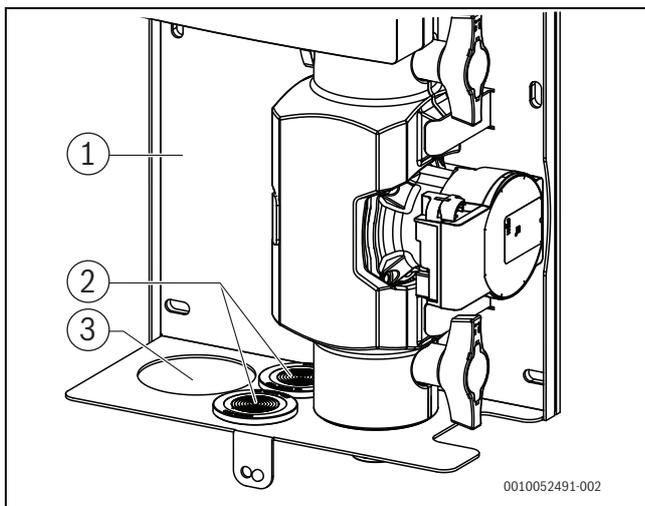
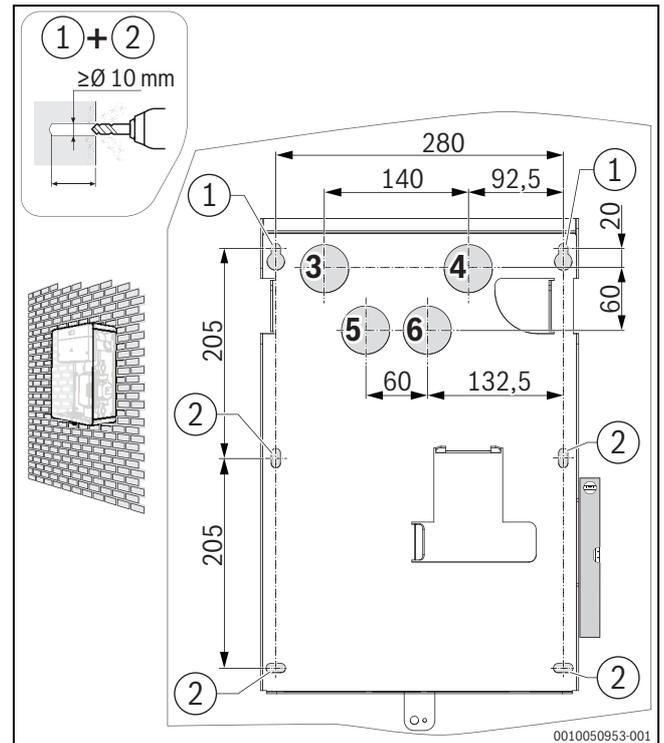

Fig. 13 Opening for the cables through the bottom panel
Fig. 14 Drilling plan for option 1
Before installing the wall mounting bracket (→Fig. 13), the corresponding mounting holes and openings for the hydraulic and electrical lines must be made on the wall as described below, in accordance with the selected option 1 or 2 (→Fig. 14 and 15).
Electrical cables can be routed either at the rear through the wall or downwards through the bottom panel (→Fig. 13 and 14).
- ▶ Drill holes in the wall according to the drilling plan (→Fig. 14).
Electrical cables can be routed either through the wall or downwards through the bottom panel (→Fig. 13 and 15).